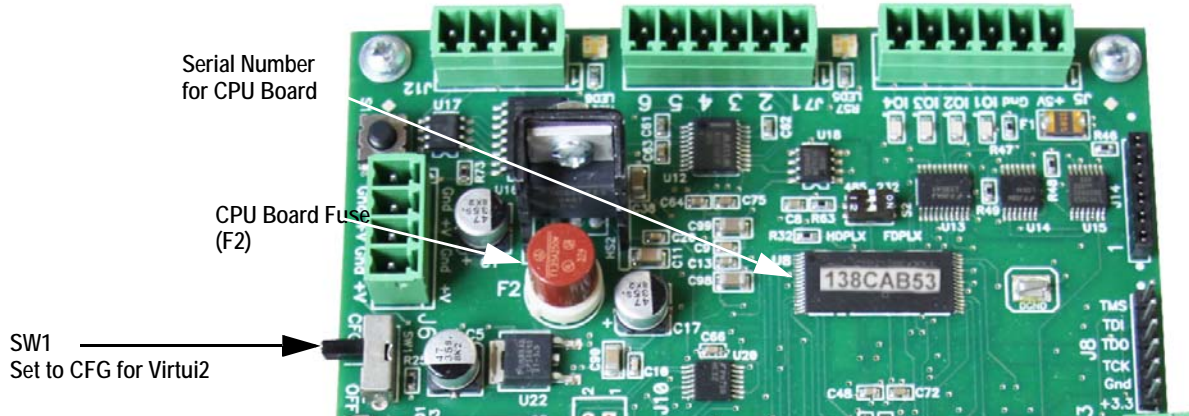

Figure 5-1. SW1 Location on CPU Board
3. For each secondary device, enter the desired ID (located on the CPU board; see Figure 5-1 on page 45).
1. Set SW1 to CFG, if not currently connected to the iQUBE². See Figure 5-1 on page 45.